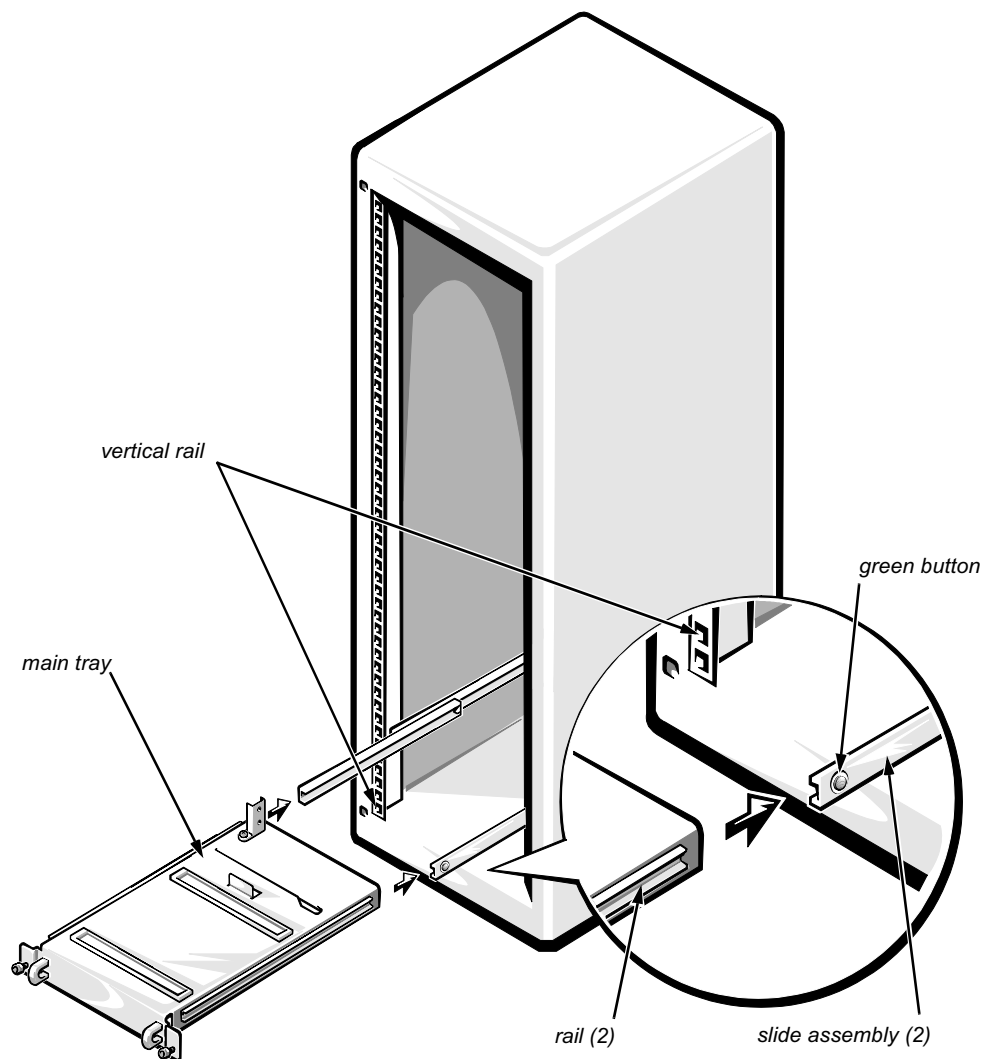

Figure 10. Installing the Main Tray in the Rack
2. Lift the main tray into position, and insert the tray's built-in rails into the channels of the interior slides (see Figure 10).
As you pull the tray out to its furthest extension, the tray will lock in the extended position. To push the tray back into the rack, press the green buttons near the front of both interior slides (see Figure 10) and simultaneously push in on the tray.